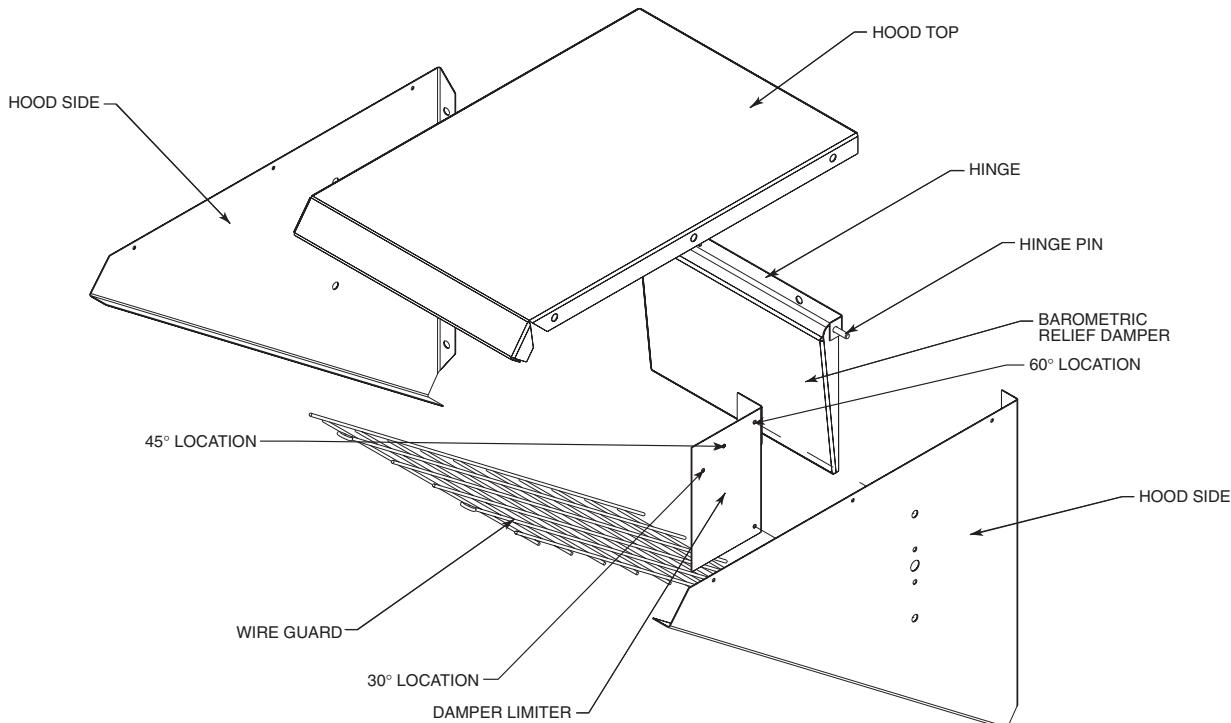

Fig. 12 — Energy Recovery Section Barometric Exhaust Air Hood Assembly
Damper — The hood kit supplied with the energy recovery section is needed to complete this installation. The exhaust air hood (that includes the barometric relief damper) must be assembled and installed on the energy recovery section per the instructions below. See Fig. 12.
1. Install the barometric relief damper onto the energy recovery section by mounting the hinge with 2 screws then sliding in the hinge pin. See Fig. 12.
2. Install damper limiter for 30, 45, or 60 degree angles. Limiter pin not required for 90-degree setting (set to the desired position based on CFM requirements and fan speed). See Fig. 12. Fan speed is adjusted by relocating wires on fan terminal blocks.
5. Install wire guard as shown in Fig. 12.